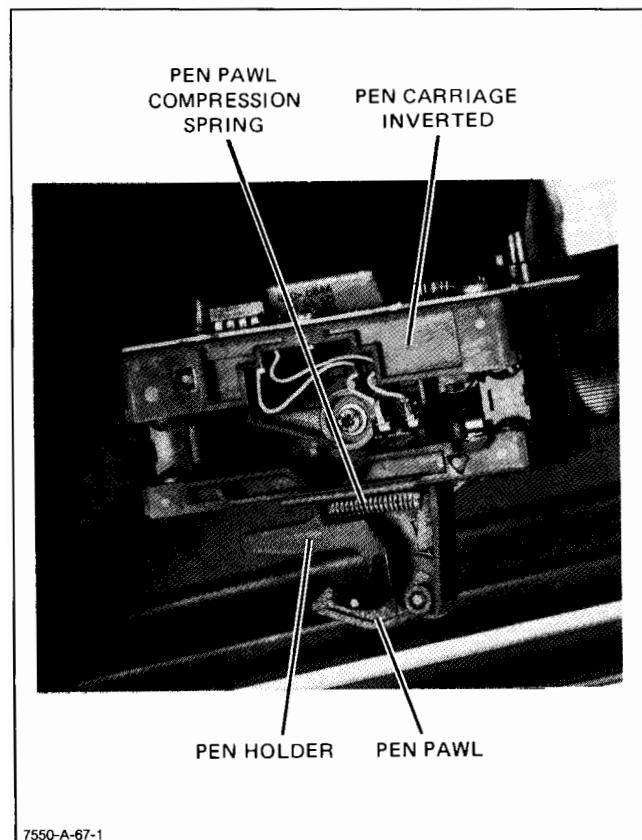

Figure 6-25. Pen Pawl Removal
- e. Carefully remove the pen pawl compression spring from the pen holder. See Figure 6-25.